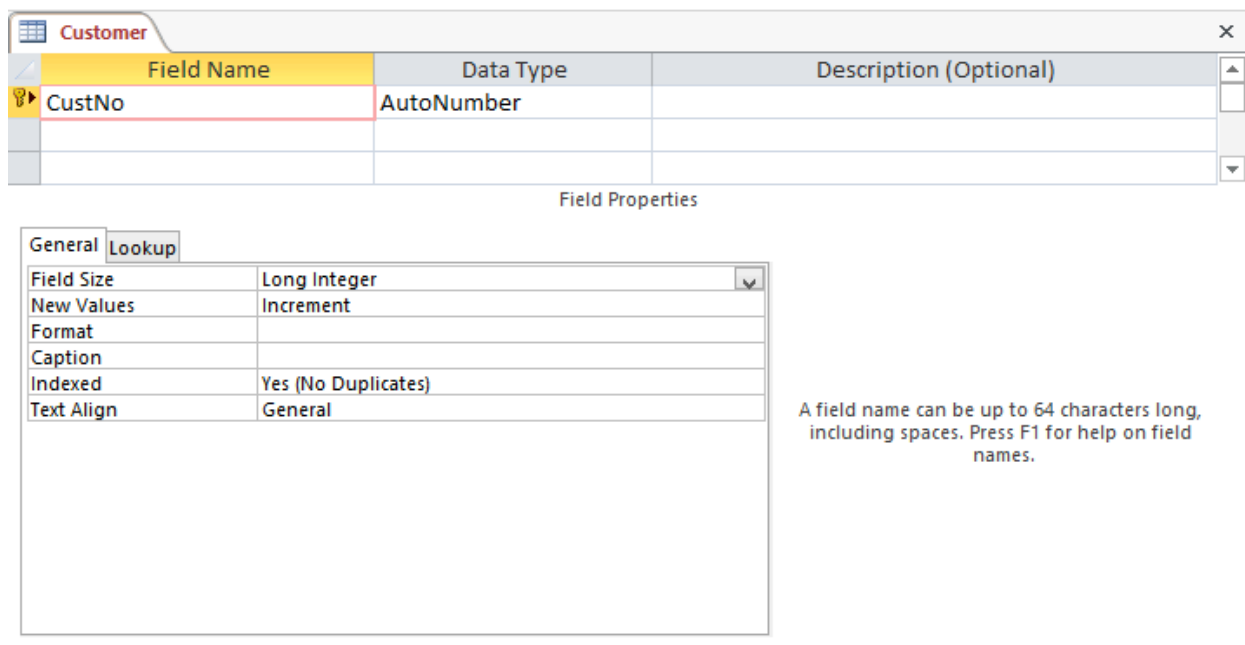

Figure 6: Design View Showing Properties of the *CustNo* Field
1. **Rename the First Field:** You should change the default name “ID” of the first field. Position the cursor in the first row of the *Field Name* column and type “CustNo” (abbreviation for Customer Number) as shown in Figure 6. It is a good idea to keep field names short or abbreviate them so they will fit easier in a datasheet.
5. **Set the Primary Key:** By default, Access sets the first column as the primary key so you do not need to set *CustNo* as the primary key. In other tables, you will need to set the primary key. You may designate a field as the primary key by either (a) clicking the small **Key** icon on the Access toolbar above or (b) clicking the right mouse button and selecting the **Primary Key** item from the drop-down menu. After designating the primary key, a small key icon appears in the left margin as shown in Figure 6.